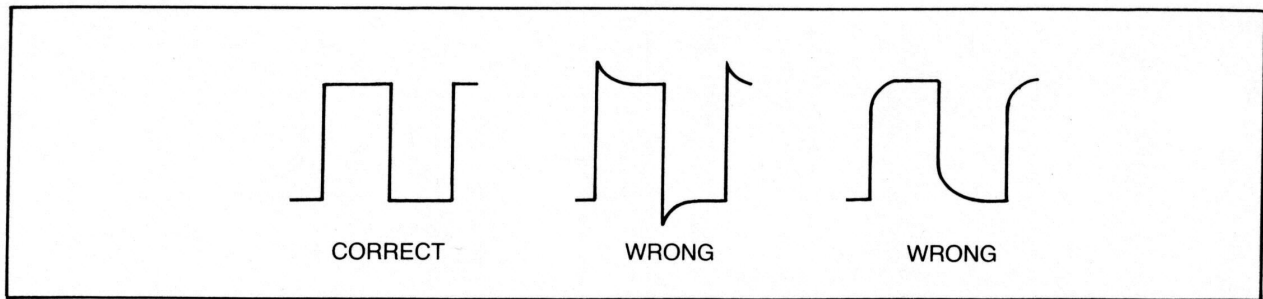

Figure 3-3.
Connect a square-wave generator to the CH-1 and CH-2 input connectors. Adjust the generator frequency to 1000 Hz, and its output level to 25 mVp-p. Adjust VR- 1 on PCB T-3154 for a correct square-wave display, per Figure 3-3. After channel 1 is compensated, adjust VR-11 on PCB T-3154 for a correct channel 2 display.
Adjust VR-2 on PCB T-3154 for a correct square-wave display, per Figure 3-3. After channel 1 is compensated, adjust VR-12 on PCB T-3154 for a correct CH-2 display.
Adjust CH-1 1/2Cc on PCB T-3154 for a correctly compensated square-wave. (See Figure 3-3.) Reset the CH-1 VOLTS/DIV switch to 50 mV, and the generator output level for 250 mVp-p. Adjust CH-1 1/5Cc on PCB T-3154 for a correctly compensated square wave. Reset the CH-1 VOLTS/DIV switch to .1 V, and the generator output level to .5 V. Adjust CH-1 1/10Cc on PCB T-3154 for a correctly compensated square-wave. Reset the CH-1 VOLTS/DIV switch to 1 V, and the generator output level to 5 Vp-p. Adjust CH-1 1/100Cc for a correctly compensated square-wave.
Adjust VC-3 (CC) on PCB T-3153 for a correctly compensated square-wave, per Figure 3-3.